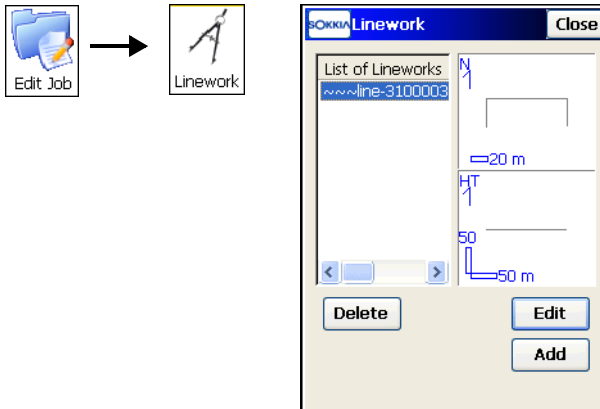

Figure 6-26. Edit Linework
1. On the *Linework* screen, tap the **Add** button to create new linework. The *Edit Line* screen displays (Figure 6-26 on page 6-19).
2. To delete the linework from the list, tap the **Delete** button (Figure 6-26 on page 6-19).
3. To edit the properties of a linework, either double-tap or highlight the linework in the list and tap the **Edit** button (Figure 6-26 on page 6-19).